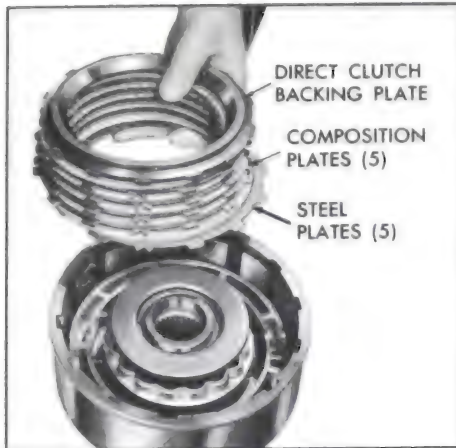

Figure 5-626
4. Remove direct clutch backing plate, (five) 5 composition and (five) 5 steel clutch plates. See Figure 5-626.